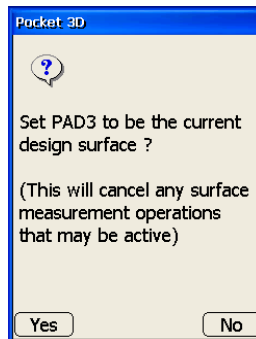

Figure 5-12. Design Surface Verification Dialog Box
4. At the *verification* screen, press **Yes** to set the file as the current design surface (Figure 5-12 on page 5-9); Pocket-3D loads the file for 3D LPS control.